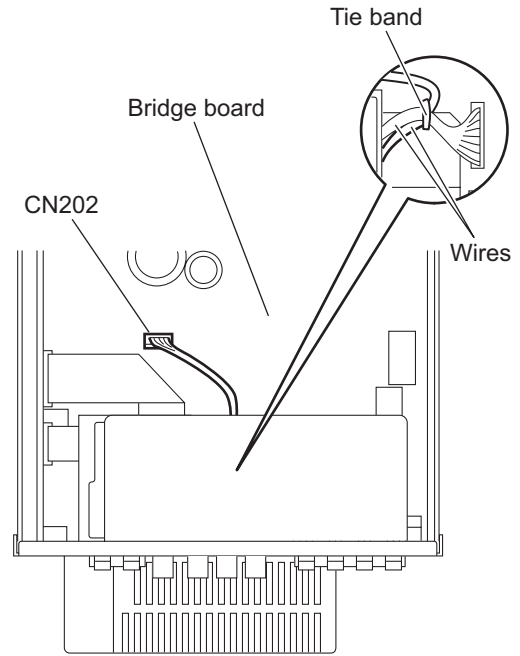

Fig.10
### 3.1.5 Removing the rear panel (See Figs.10 to 12)
(1) From the top side of the main body, remove the tie band bundling the wires. (See Fig.10.)
After reassembling, bundle the wires with the new tie band as before. (See Fig.10.)
- (2) Disconnect the wire from the connector **CN202** on the bridge board. (See Fig.10.)
### 3.1.6 Removing the fan (See Figs.10 to 12)